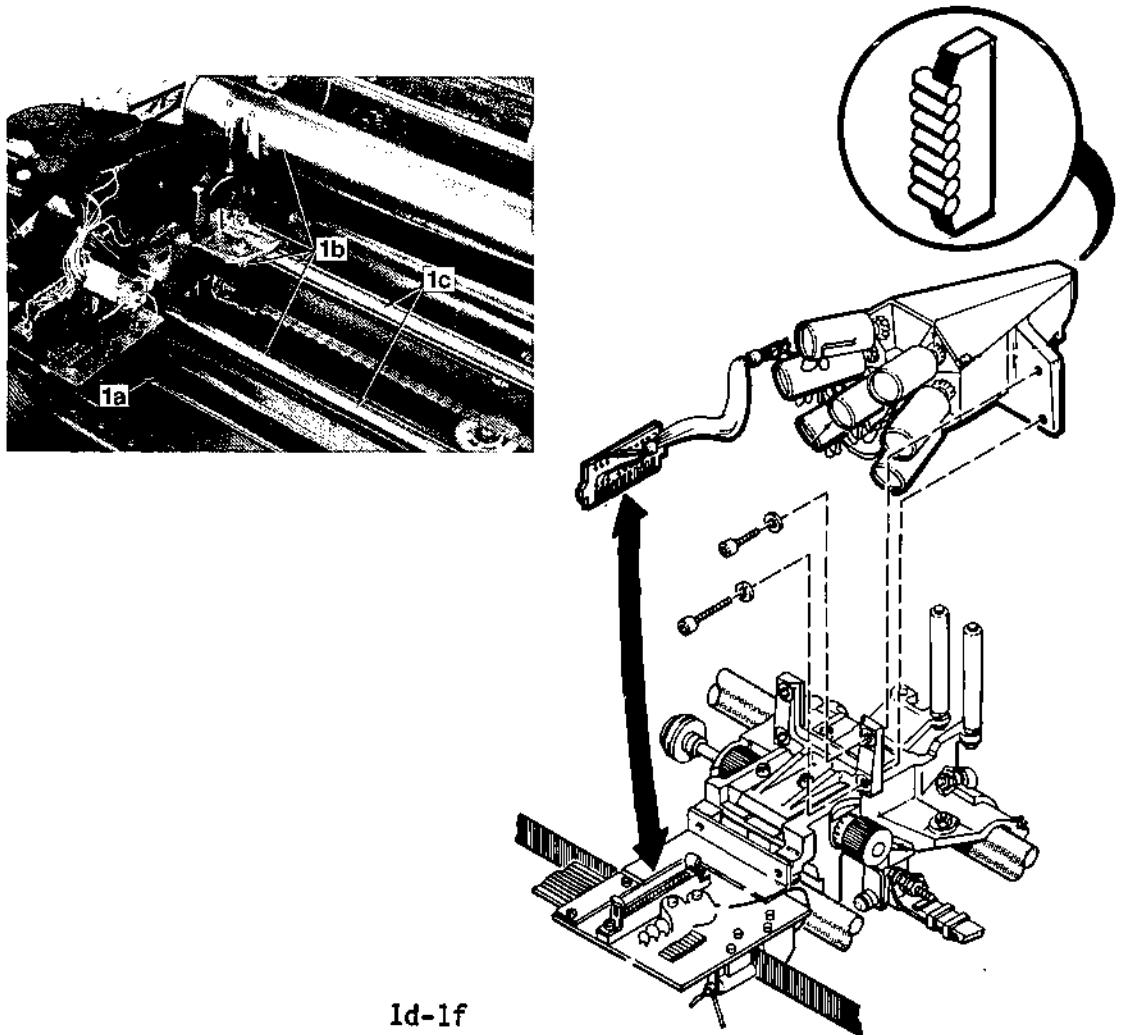

Figure 1. CARRIAGE ASSEMBLY AND TIMING FENCE
- a) Using a soft clean cloth, wipe both sides of timing fence. If necessary, use a mild detergent. (See Figure 1)
c) Lightly lubricate guide bars using lightweight oil (See Figure 1).
e) Using an eye loupe, verify that print wires align flush with face of print head jewel. (Make sure that print wires are not recessed in the jewel). (See Figure 1)